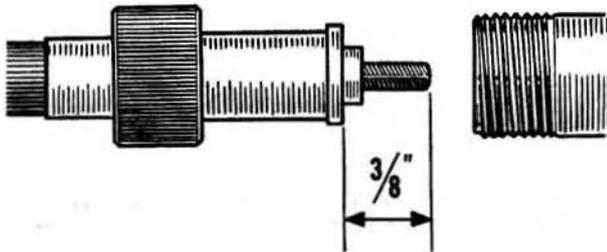

Fig.10.45. Engagement of inner flex of speedometer drive cable
- f) The inner flex must protrude 3/8" beyond the outer case as shown in Fig. 10.45.
by lack of lubrication of the inner cable, kinked cable, crushed outer case, connections overtightened, severe bends in the cable, insufficient engagement of the inner cable (Fig.10.45) etc.